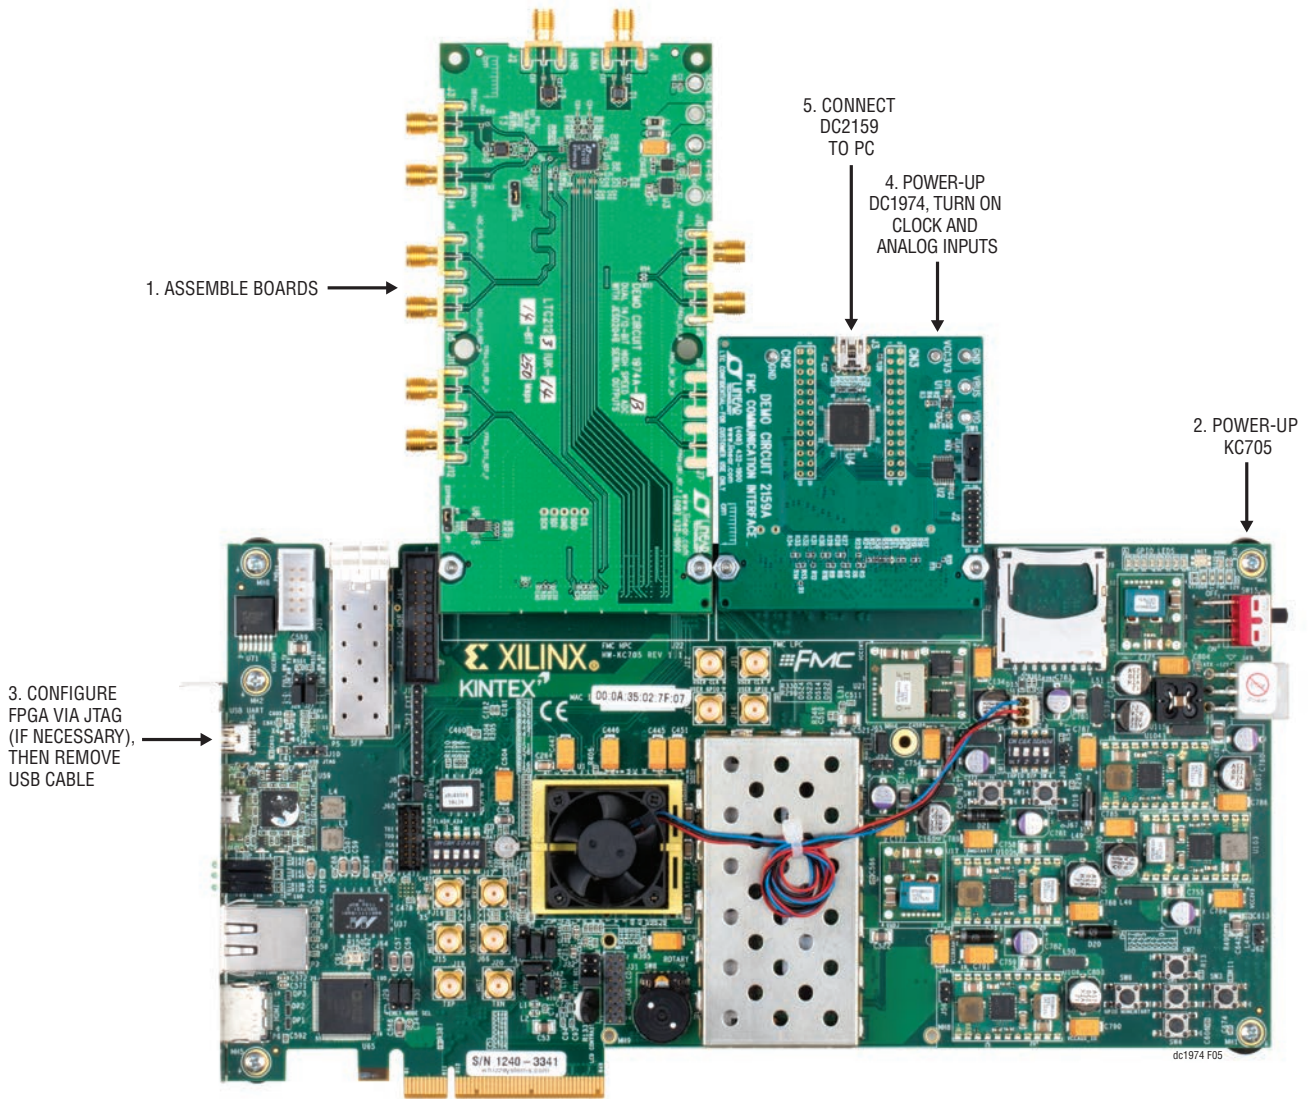

Figure 5. KC705 Based Demonstration System
- 1) If the boards were obtained separately, assemble them as shown in Figure 5 (FMC connectors are fragile, make sure they are properly aligned before seating.)